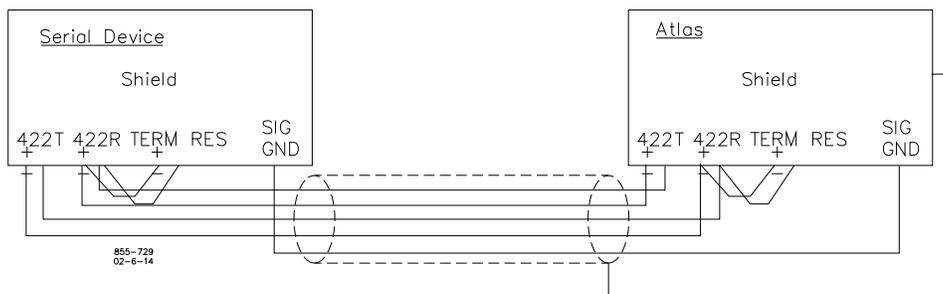

Figure 4-11. RS-422 Interface to the SmartCore Board (wiring example)
- Refer to Figure 4-11 for RS-422 wiring. The transmit data pairs (422T+ and 422T-), receive data pairs (422R+ and 422R-), and signal ground (SIG GND) must be properly connected as shown. In addition, the shield (SHLD) should be connected in at least one location. The last unit in the network chain, and only the last unit, should have its receiver terminated with a resistor. The AtlasSC has resistors built in (TERM RES) for this purpose. The unit at each end of the network should be terminated.